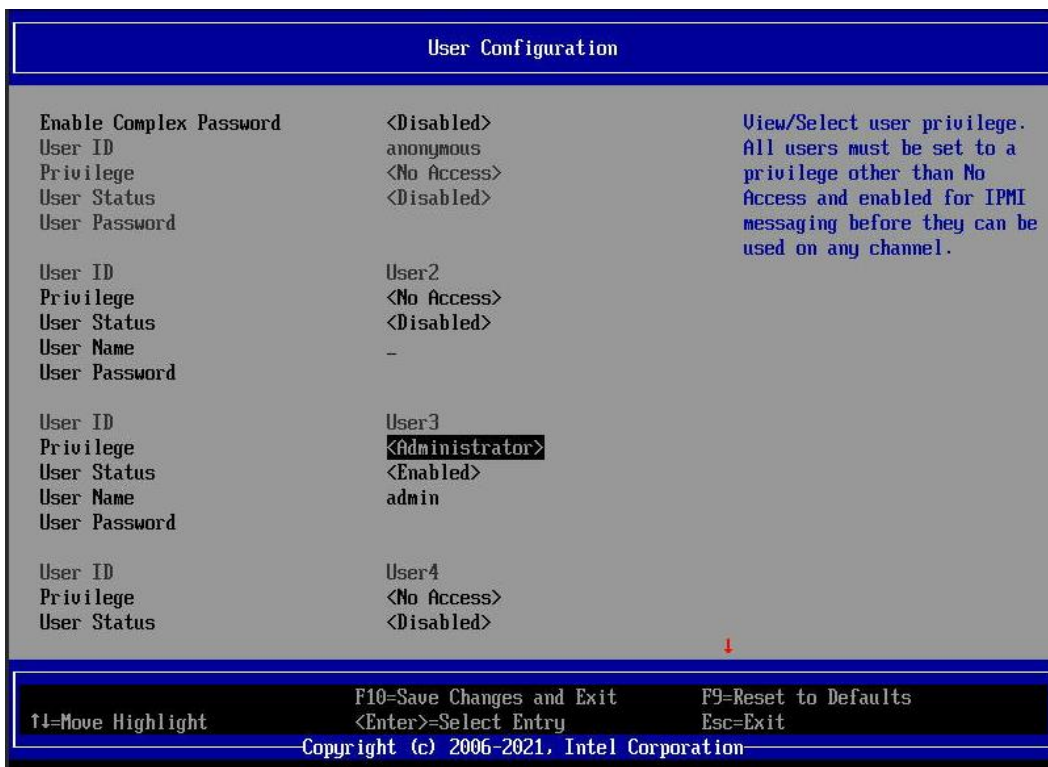

Figure 102. BIOS Setup User Configuration Screen
7. If there is a need to change the User and Password, select **BMC User Configuration** to enter the User Configuration screen (Figure 102).